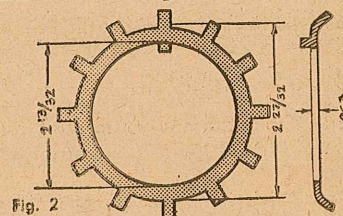

Fig. 2
So all you have to do in replacing a regulator is be sure to follow the chart showing which colored leads on the regulators hook to which symbols on the plastic terminal-blocks (or cable terminals) in the junction box: Connect the white coil wire to A, the yellow coil wire to C, etc. And to be sure you don't get the two white wires mixed up, the diagram on the back of the card (fig. 2) shows which is the coil-lead and which is the pile-lead.
TE ORD 167 (17 Aug. 44) says you can do one of three things to solve the problem: (1) Requisition Washer, spring spacer, GM No. 2202834—the washer that should've been in the kit. (2) Requisition Washer, ball-bearing lock, Item Stock No. H12-711213 (old Item Stock No. M5-2-59100), Fig. 2. It's a bit thicker and larger than the real thing, but okay to use if